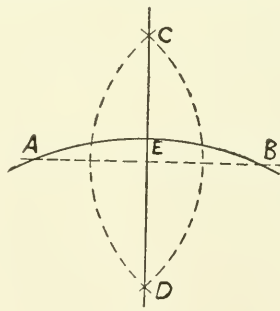

Fig. 611
18. *To bisect an arc and its chord* (Fig. 611).—Let AB be the arc. CD, the perpendicular bisector of the chord, bisects the arc.